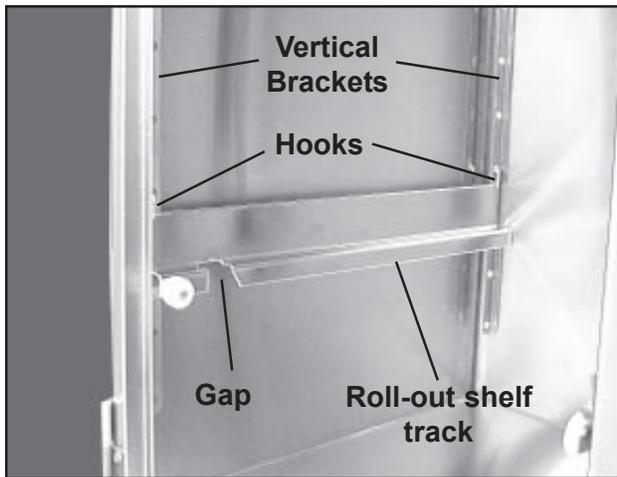

Figure 19. Roll-out Shelf Track and Vertical Brackets
2. Lift up on the roll-out shelf track and unhook it from the front and rear vertical brackets (Figure 19). Do this for both roll-out shelf tracks.